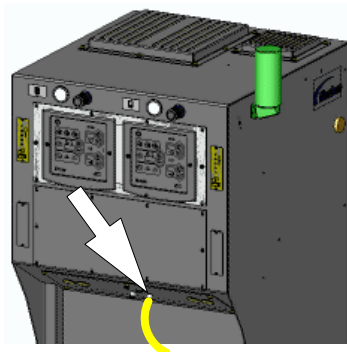

Fig. 7-5
- c. Remove the plug connectors and pull the cable through the cable fitting (arrow, Fig. 7-5).
6. Plug the sensor cable into the sensor and guide the loose end through the cable fitting (arrow, Fig. 7-5).